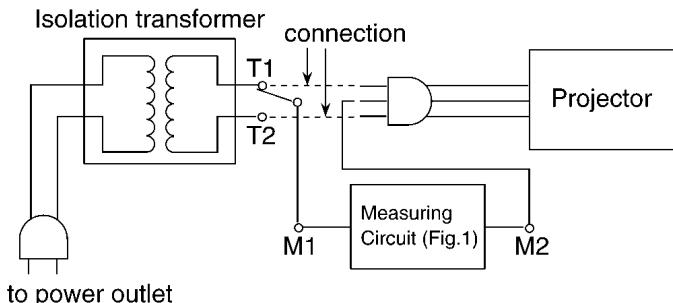

Fig. 2
- Connect M1 to T1 according to Fig. 2 and measure the voltage.